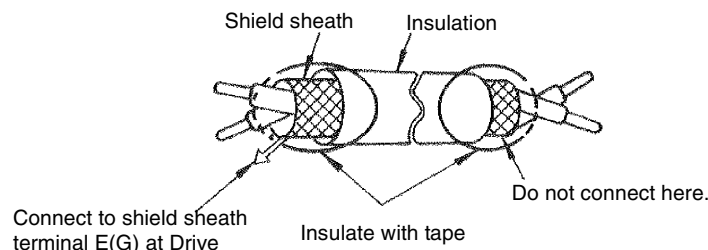

Fig 2.10 Preparing the Termination of Shielded Twisted-Pair Cables
4. Use twisted-pair or shielded twisted-pair cables for control circuits to prevent operating faults. Prepare cable ends as shown in Figure 2.10.